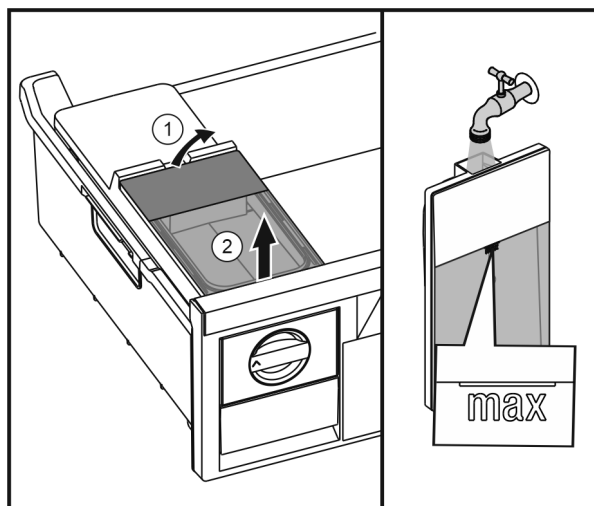

Fig. 39
- ▶ Lift up the water tank at the rear *Fig. 39 (1)* and take it out upwards *Fig. 39 (2)*.